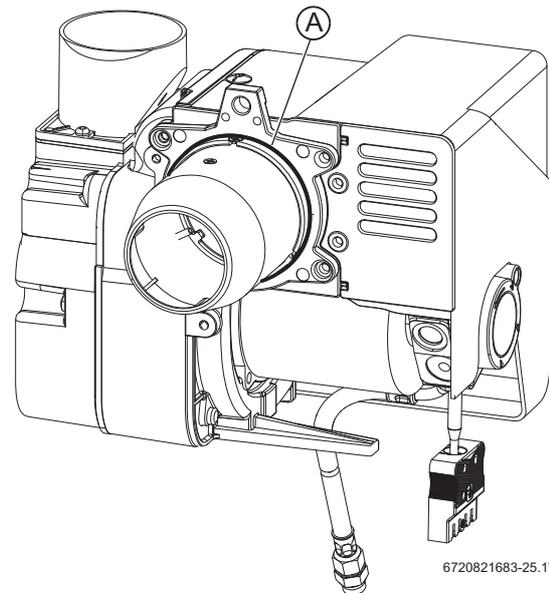

Fig. 93 18/25 and 25/32 Burner O-ring seal shown
- ▶ Always check that the O-ring seal (Fig 93 item A) is in good condition before fitting the burner. Replace the O-ring seal if defective.